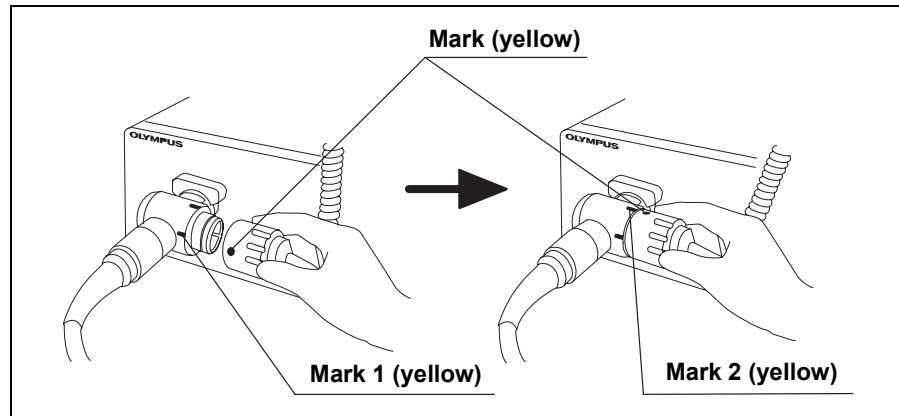

Figure 3.9
3. Align the mark on the videoscope cable with mark 1 on the endoscope connector and push it in until it stops (see Figure 3.9).
4. Turn the connector of the videoscope cable clockwise until it stops (see Figure 3.9).